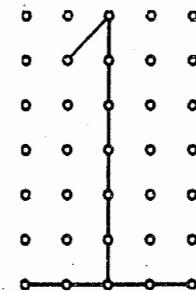

Fig. 2.7.1 : Displaying 1 on LCD display of a  $5 \times 7$  dot matrix
- LCD displays are widely used because of its low current consumption as compared to SSD. Also that LCD can be used to display any character as it uses a  $5 \times 7$  dot matrix to display. For e.g. to display '1' of LCD as shown in Fig. 2.7.1.